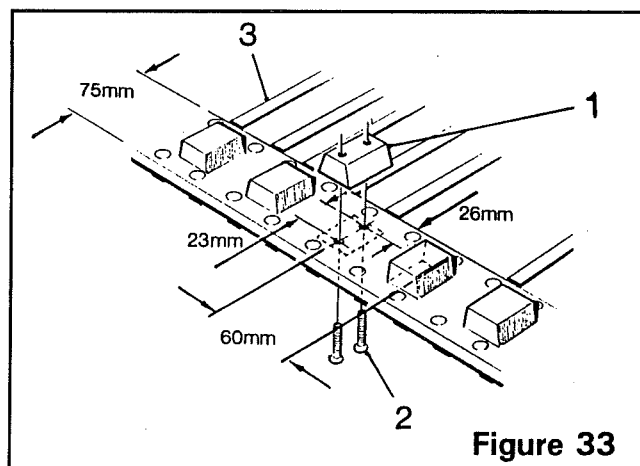

Figure 33
3, Screw the block (item 1, figure 33) into place ensuring the countersink on the screw (item 2, figure 33) is compressed as far as possible into the rubber belt top surface.
4, It is essential that the pitch of 60mm between the block centres is maintained to ensure mating in the drive sprocket. If the position of a rod (item 3, figure 33) coincides with the required position of the holes for fixing the block, then the rod must be removed and re-riveted after fixing the block.